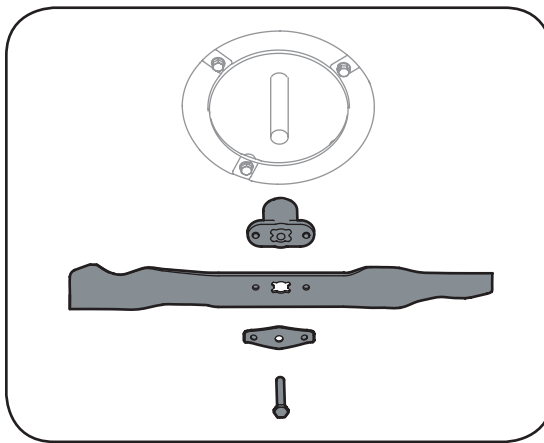

Figure 5-3: Remove the bolt and blade bell support to access the blade and underside components.
2. Remove bolt, blade bell support, blade, and adapter from the engine crankshaft. See Figure 5-3.
4. Remove blade, adapter, and related hardware as instructed under "Blade Care" above. See Figure 5-3.